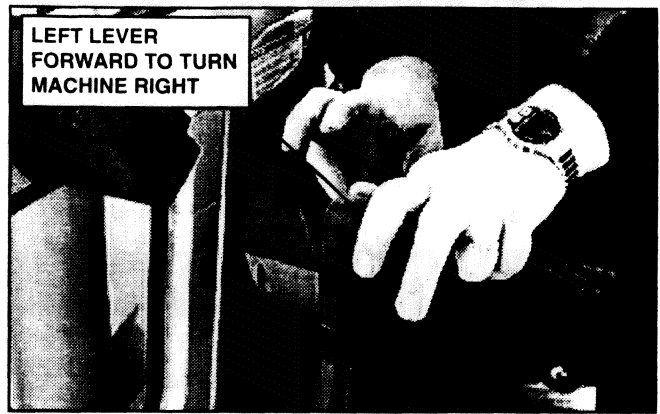

FIGURE 3.26
- a. Push the L.H. Travel Lever toward front of machine to turn machine RIGHT in Forward Motion. See Figure 3.26.
- b. Pull the L.H. Travel Lever back toward operator seat to turn machine to the LEFT in reverse motion. See Figure 3.26.